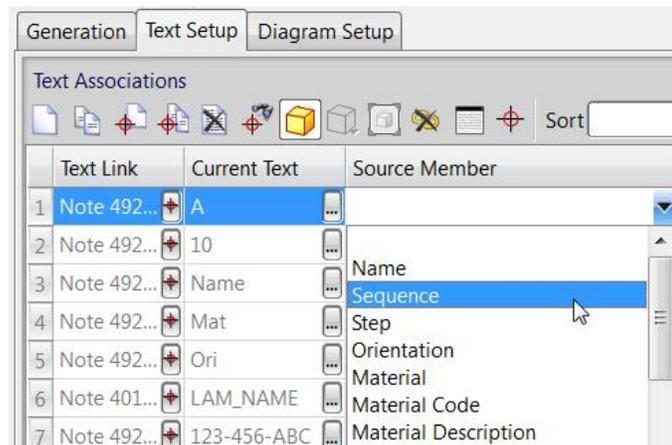

Figure 8–28
16. Enter the remaining Text Links as shown in Figure 8–29: